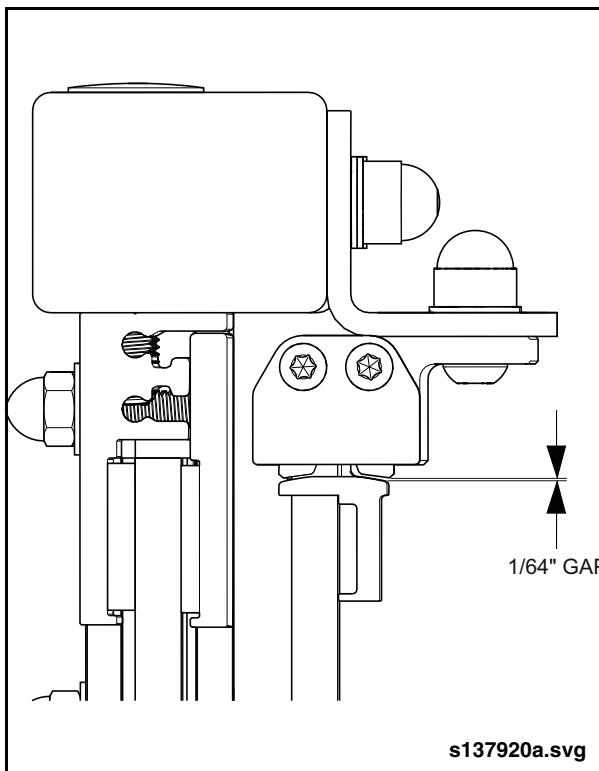

Fig. 17-20: Upper Slider Track Adjustment
3. Adjust the slider track until the sliding sash is centered. See "Fig. 17-20: Upper Slider Track Adjustment" on page 22.